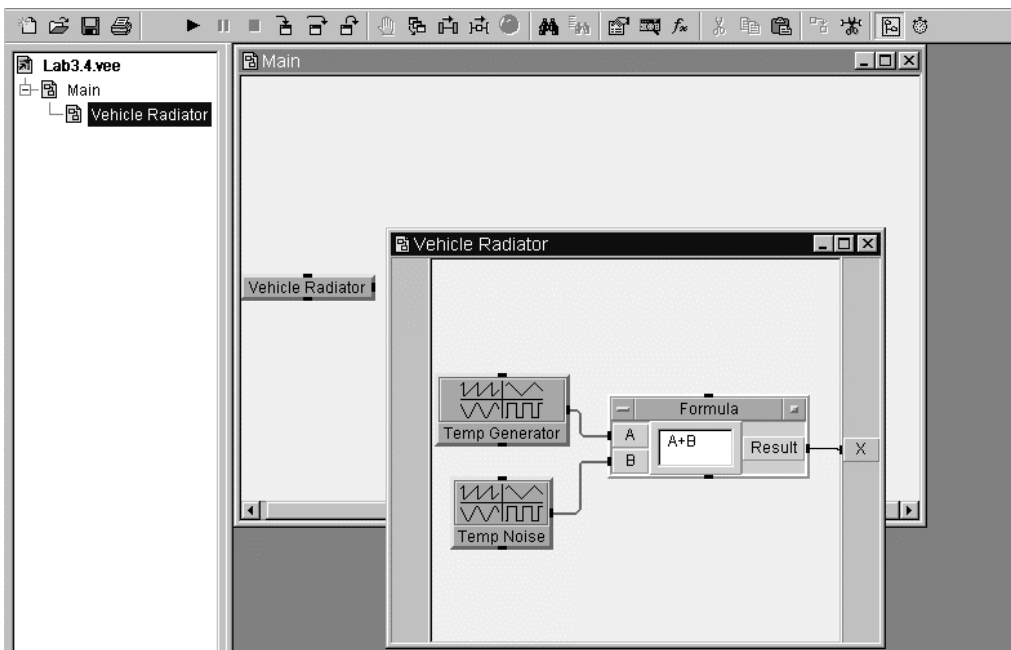

Figure 3.7. Vehicle Radiator UserObject
26. Examine Figure 3.7. Arrange the Vehicle Radiator UserObject in the Main Work Area as both an Iconic View and an Open-View UserObject. Change the size and location of the Main Work Area and UserObject to display the same as shown in Figure 3.7.